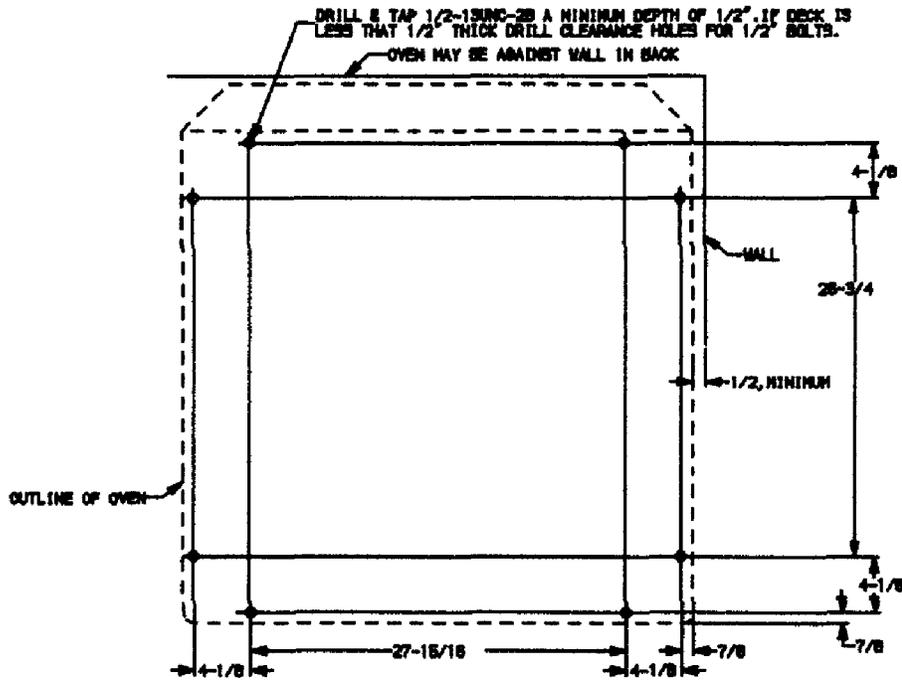

Figure 8-7. Double Section Bolt Hole Pattern
1. Figure 8-7 shows the bolt hole pattern for attachment of the oven to the deck. The holes should be prepared prior to installation of the oven.